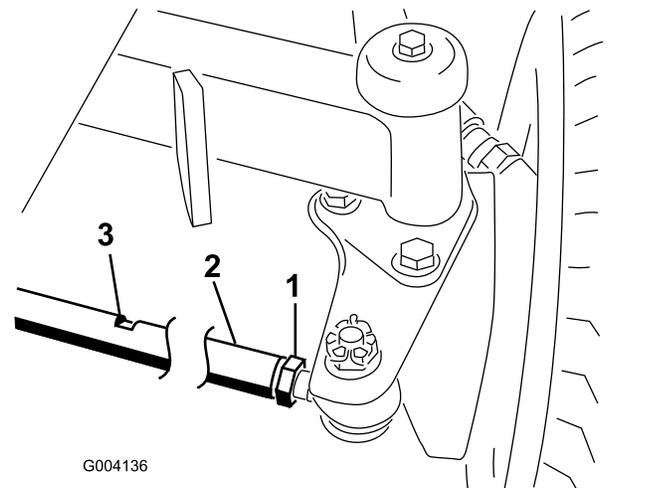

Figure 81
2. Loosen the jam nut on each end of the tie rod (Figure 81).